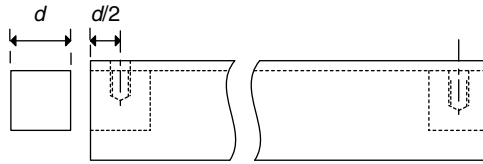

Figure 2.27
- Two of your channels will have pillars inside them. Decide which these channels are, and drill M5 clearance holes at each end (5 mm, or perhaps 5.1 mm to allow adjustment on assembly) (see Figure 2.27).